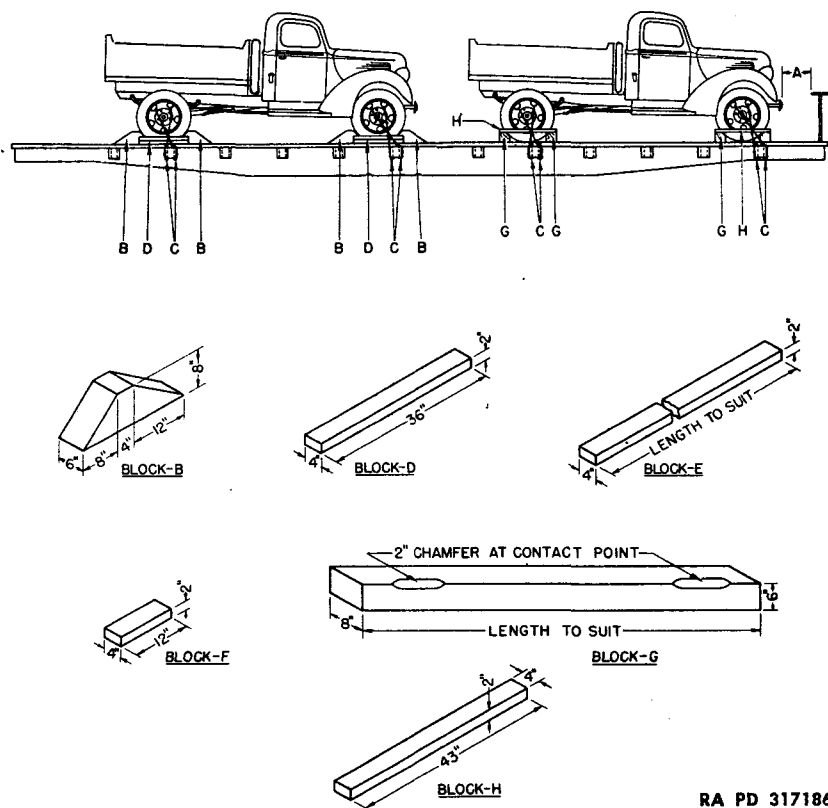

Figure 142—Block Requirements for Securing Wheeled Vehicles on Railroad Cars
(4) **BRAKES.** The brakes must be applied and the transmission placed in low gear, after the vehicle has been placed in position with a brake wheel clearance of at least 6 inches ("A", fig. 142). The vehicles will be located on the car in such a manner as to prevent the car from carrying an unbalanced load.
(5) All cars containing ordnance vehicles must be placarded "DO NOT HUMP."
(6) Ordnance vehicles may be shipped on flat cars, end-door box cars, side-door box cars, or drop-end gondola cars, whichever type car is the most convenient.
(1) **METHOD 1** (fig. 142). Locate eight blocks "B," one to the front, and one to the rear of each wheel. Nail the heel of each block to the car floor, using five 40-penny nails to each block. That portion of the block under the tread will be toenailed to the car floor with two 40-penny nails to each block. Locate two blocks "D" against the outside face of each wheel. Nail the lower block to the car floor with three 40-penny nails, and the top block to the lower block with three 40-penny nails. Pass four strands, two wrappings, of No. 8 gage, black annealed wire "C" through the holes in the wheels and then through
(2) **METHOD 2** (fig. 142). Place four blocks "G," one to the front and one to the rear of each set of wheels. These blocks are to be at least 8 inches wider than the over-all width of the vehicle at the car floor. Using sixteen blocks "F," locate two against blocks "G" to the front of each wheel, and two against blocks "G" to the rear of each wheel. Pass four strands, two wrappings, of No. 8 gage, black annealed wire "C" through the holes in the wheels, and secure as described in method 1 above.